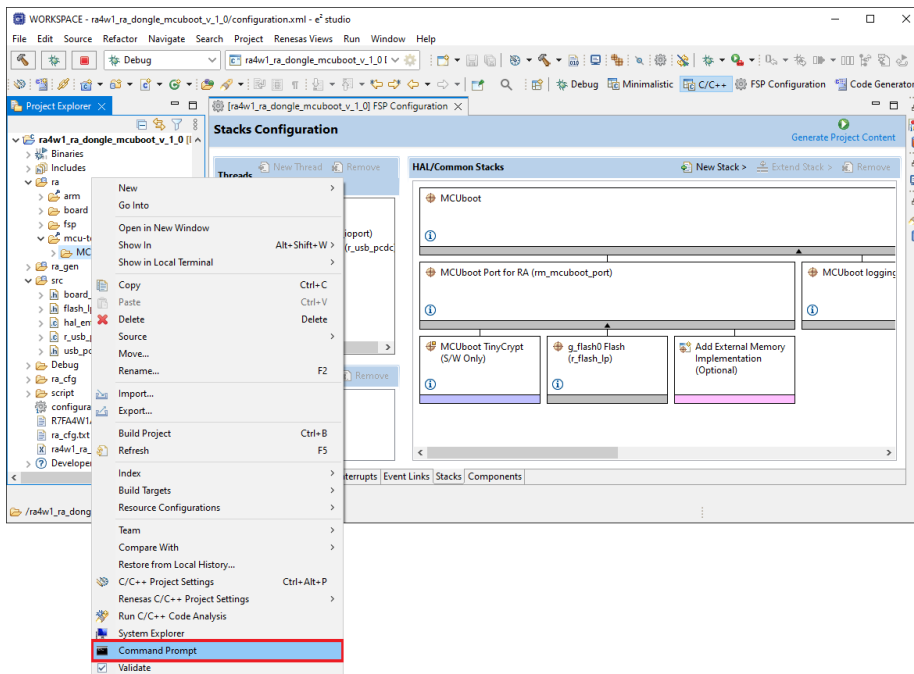

Figure 19. Opening Command Prompt in the MCUboot folder
- Configure the Python Signing Environment. Signing the application image is done using a post-build step in e² studio using the image signing tool **imgtool.py**, which is included with MCUboot. In the e² studio Project Explorer navigate to **ra4e1_iso_dongle_mcuboot_v_1_0\ra\mcu-tools\MCUboot** folder (Figure 19). Right-click over the **MCUboot** folder and select **Command Prompt**. This opens a command window with the path set to the **\mcu-tools\MCUboot** folder.